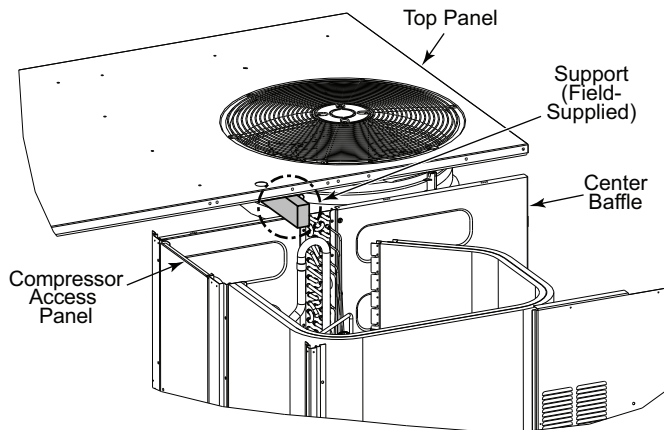

Fig. 15 — Top Panel Position
3. Lift and rotate the top panel at the condenser fan end and rotate the panel 90 degrees. Support the top panel so it remains level while resting on the condenser fan as shown in Fig. 15.